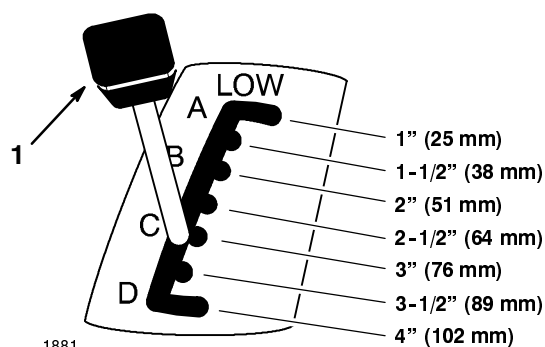

Figure 5
2. Pull on the height-of-cut lever (deck lift) and move it to the desired position (Fig. 5).